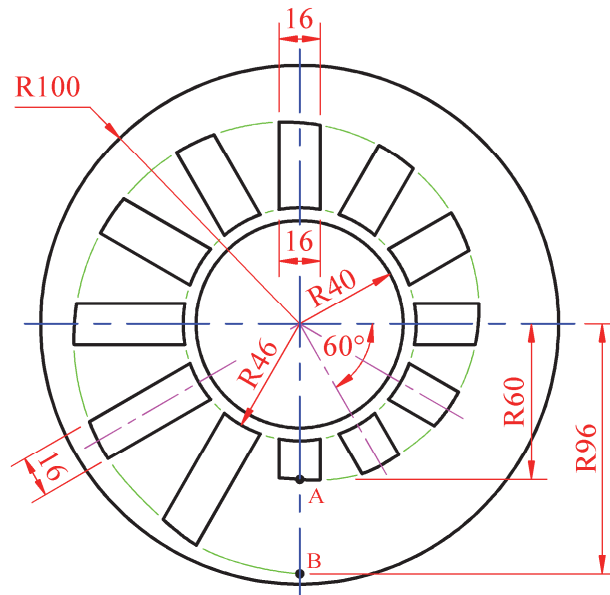

Fig. C-4(a)
- (b) The graphic on the right shows a toy tipper truck. Details of the rear of the truck are given in Fig C-4(b) below. In its initial position the truck body is tipped open as indicated. The truck body then rotates through an angle of 60° , at a constant speed, about point **A** to its horizontal position as shown.